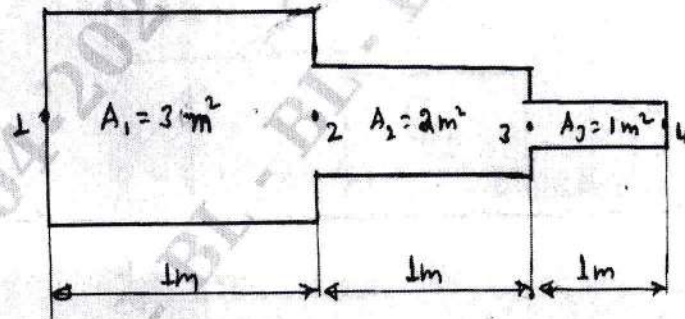

Fig Q8
- 8 For smooth pipe of variable c/s shown in Fig Q8. Determine potential at junctions, Velocities in each section of pipe and volumetric flow rate. Potential at left end $P_1 = 10 \text{ m}^2/\text{s}$, right end $P_4 = 1 \text{ m}^2/\text{sec}$, fluid flow through pipe $K_x = 1$.